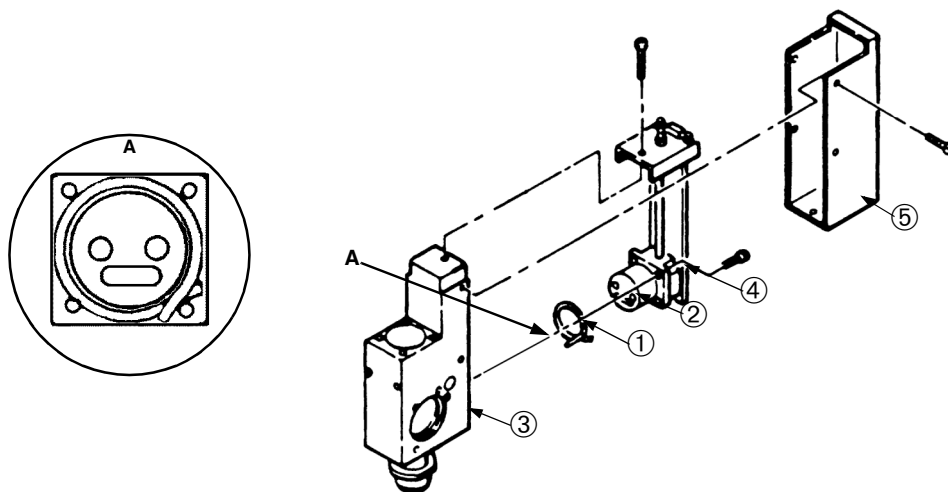
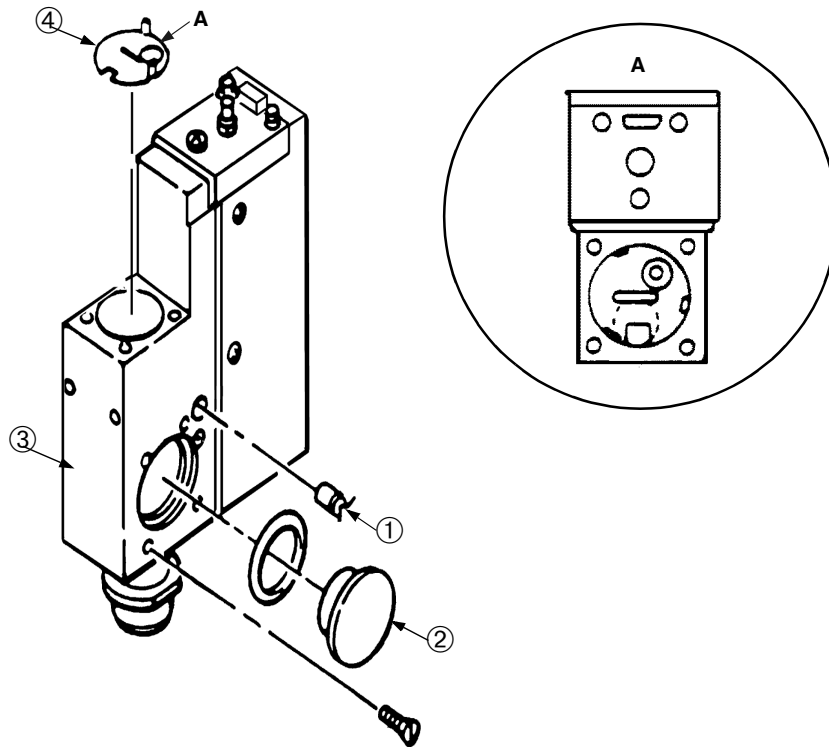
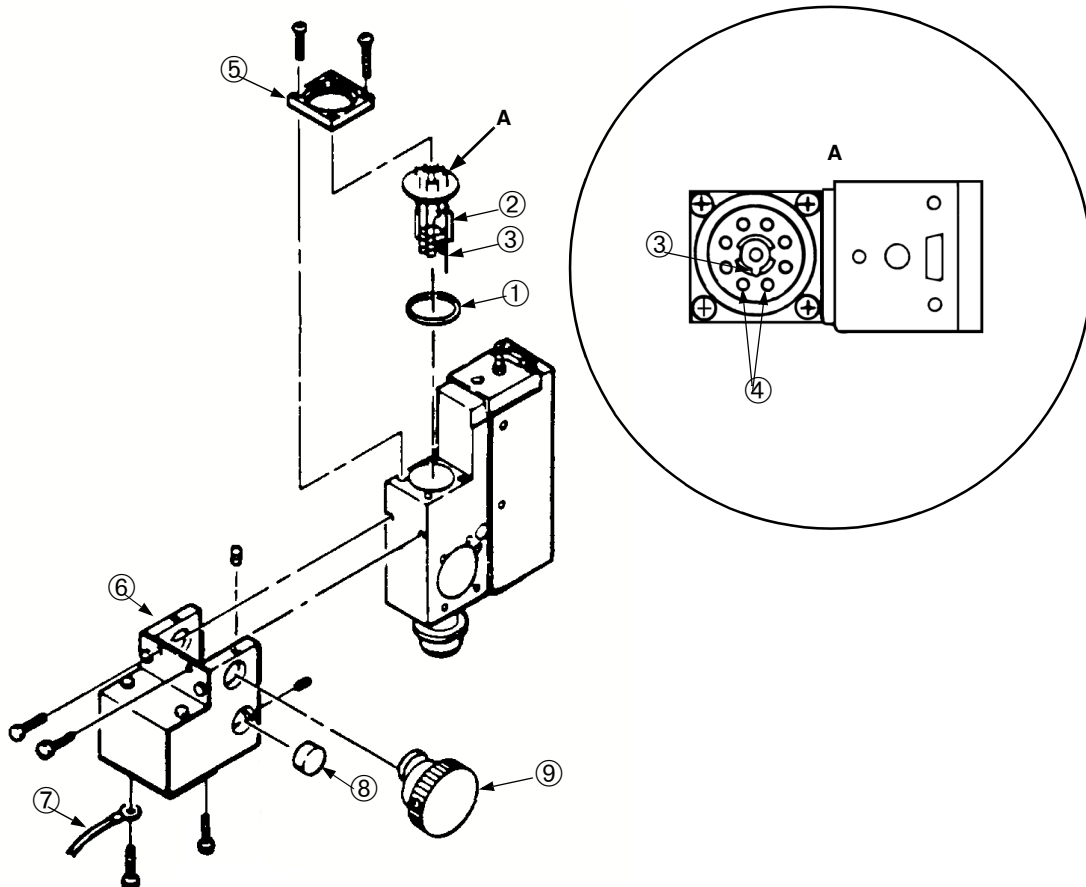

Figure 4-4 Spectrometer Tube Reassembly
Figure 4-5 Spectrometer Tube Reassembly (Ground Slit Plate)
Figure 4-6 Spectrometer Tube Reassembly (Magnet Assembly)
Refer to Figure 4-4 for step 1 through step 5, to Figure 4-5 for step 6 through step 8, and Figure 4-6 on page 4-19 for step 9 through step 13.
1. Place a new metal seal ① on the collector housing assembly ② with the ends of the seal crossed under one of the screw holes (Figure 4-4, View A).
2. Mount the collector housing assembly to the spectrometer tube body ③ with the four socket head cap screws, sized 8-32.
- Put the heater cartridge ① back in its cavity (Figure 4-5).
- With the new O-rings on each of the two deflection pole pieces ②, insert the pole pieces into the spectrometer tube body ③, tighten the four slotted screws on each side of the spectrometer tube, and note the positions of both the roll pin in the body and the notch in the pole piece flange used for alignment.
- When installing the ground slit plate ④, be sure that the snap prongs are facing up, then align the slit at 90° with the side wall of the spectrometer tube, and concentrically align the circular hole in the plate with the smaller guide hole in the bottom of the ion source cavity (Figure 4-5, View A).
- Wipe the new O-ring ① and mating surfaces with a clean, lint-free cloth and place the new ion source ② in its cavity (Figure 4-6 on page 4-19) as follows:
- Place the locating pin ③ approximately in the center of the guide hole.
- Ensure that pins 1 and 8 ④ are parallel to the side wall of the spectrometer tube as shown in Figure 4-6 on page 4-19, View A.
- Tighten the flange cap ⑤ evenly and firmly with the four Phillips head screws.